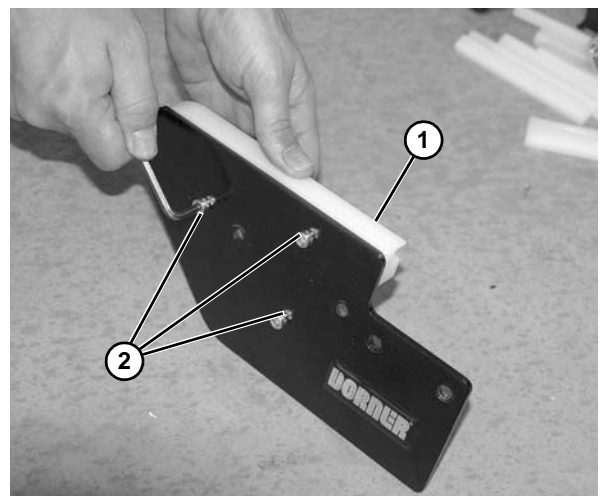

Figure 76
9. Check idler terminal assembly (**Figure 76, item 1**) for wear. If worn, remove three low head cap screws (**Figure 76, item 2**) and replace.